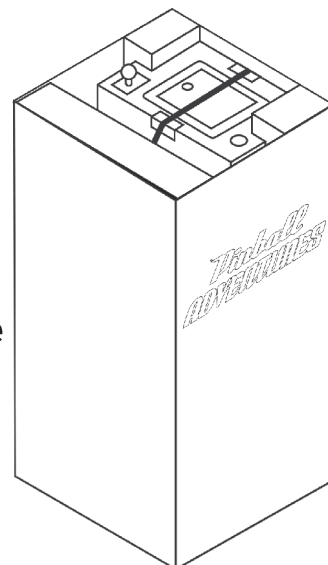

Fig. 1b Opening the shipping box
2. Wearing safety glasses, cut the shipping bands off the box with a utility knife, then carefully lift off the top section of the box (Fig. 1b). Then remove the leg box and check for the following: